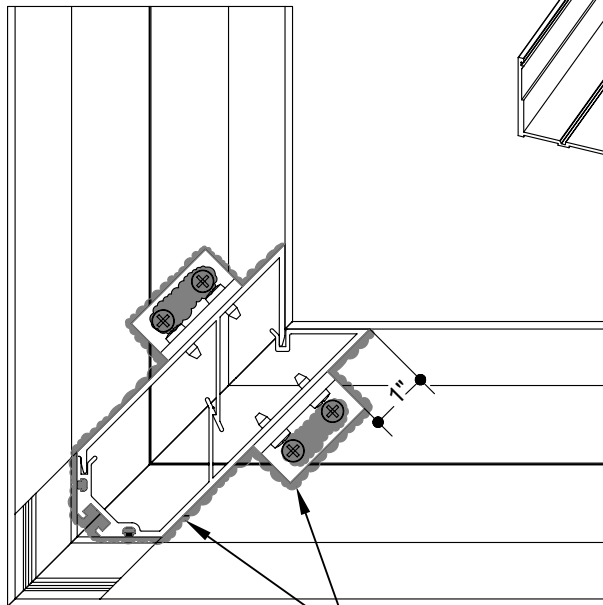

FIGURE 4
- STEP E:** Apply sealant to corner where the mullion meets the receptor. Seal over heads of angle clip fasteners. Tool all sealant. (Figure 4 and 5)